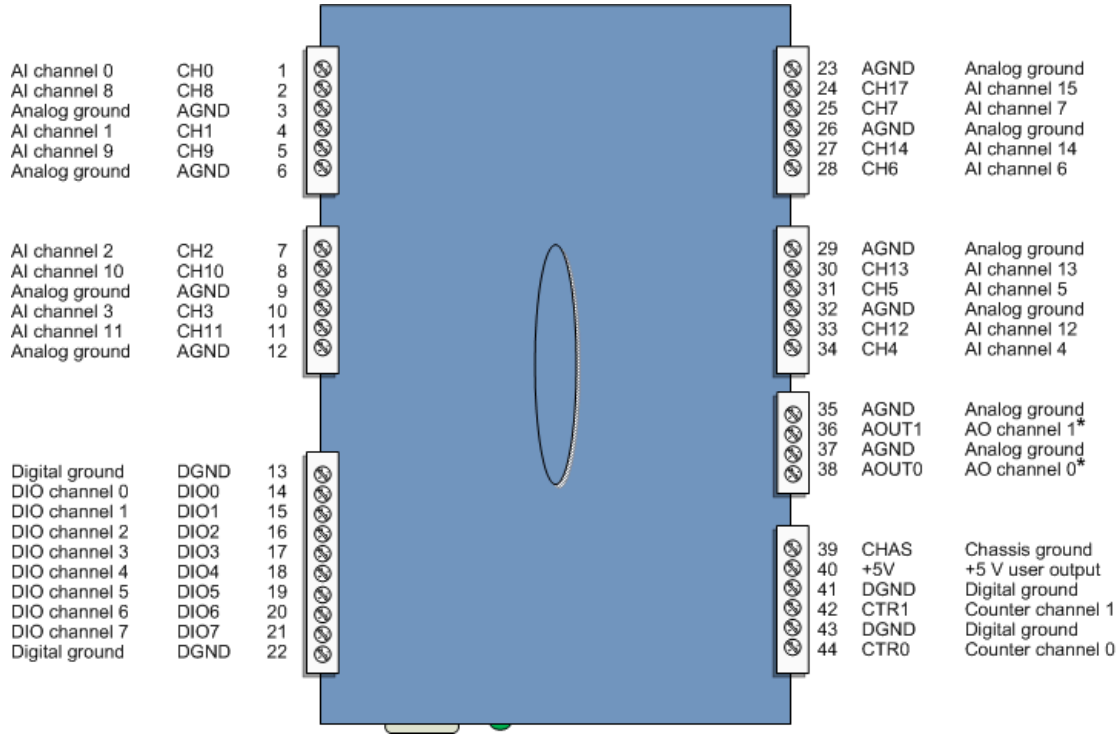
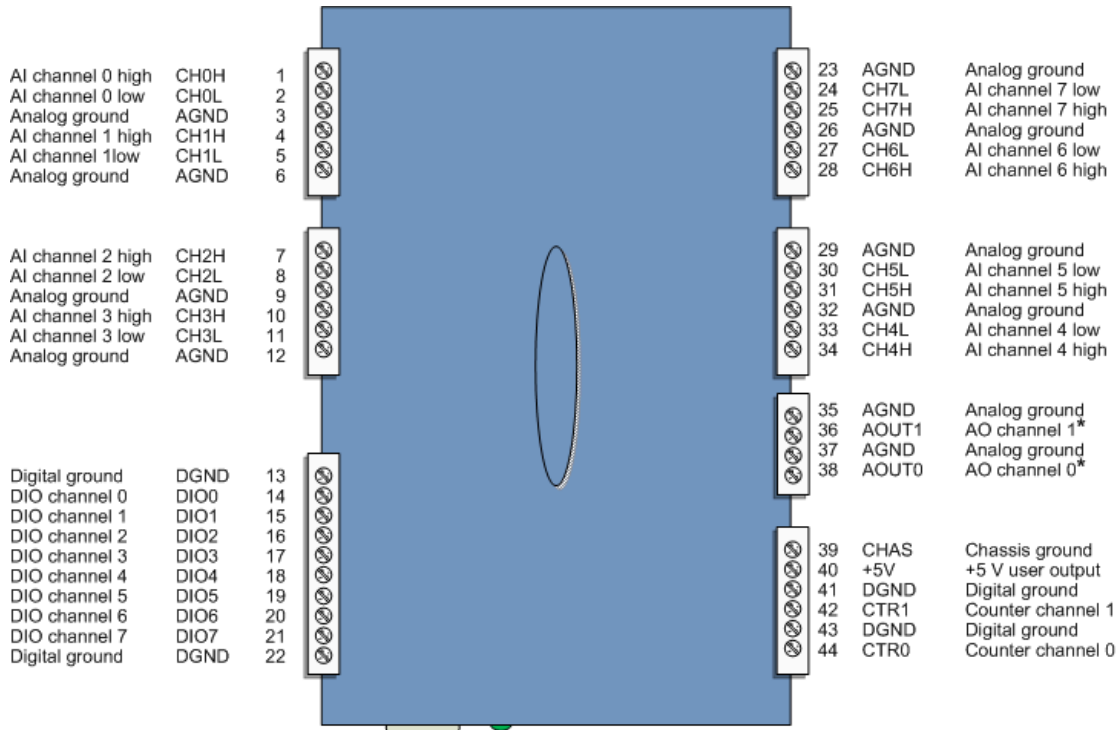

Figure 3. SE mode pin out
Figure 4. DIFF mode pin out
OMB-DAQ-2408 Series devices have two banks of screw terminals. Screw terminal functions for SE and DIFF modes are identified in Figure 3 and Figure 4.
- 16 SE (**CH0** to **CH15** – see Figure 3) or eight DIFF (**CH0H/CH0L** to **CH7H/CH7L**) analog input connections
Refer to Figure 3 on page 11 for the location of the SE inputs.
Refer to Figure 4 on page 12 for the location of the DIFF inputs.